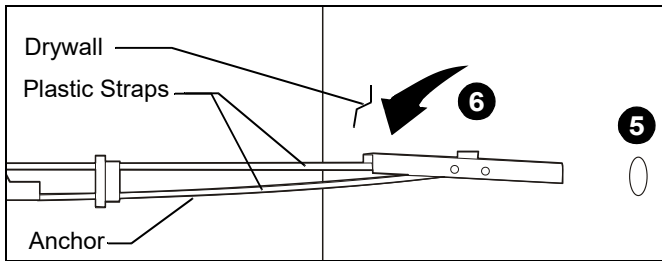
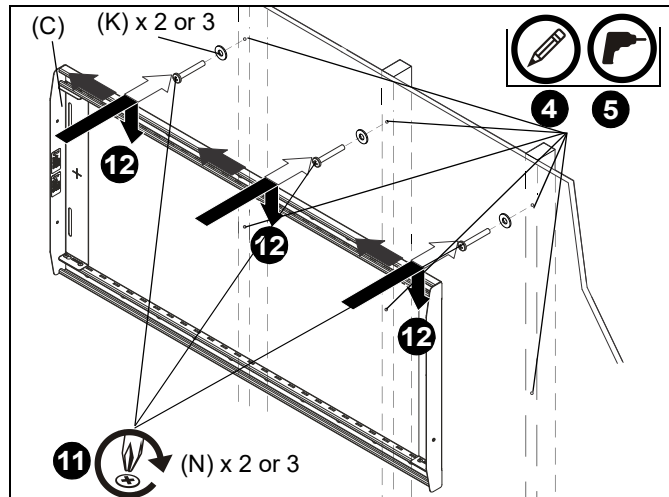
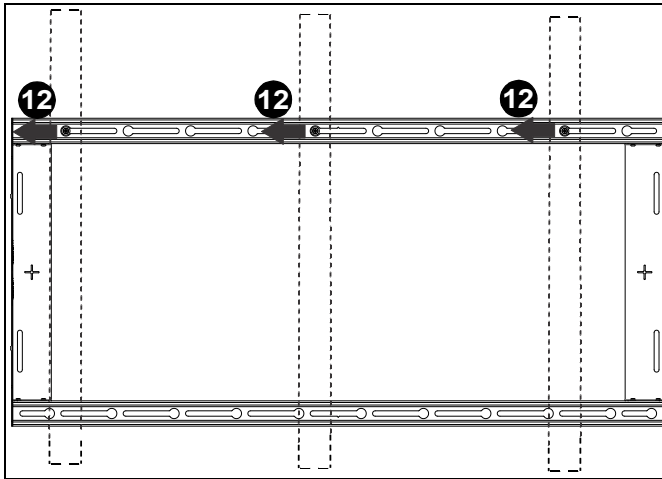

Figure 3
Figure 6
Figure 7
4. Using a level, mark the wall on each stud to attach the mount through the mounting slots. (See Figure 6)
5. Drill four or six 1/2" (12.7mm) pilot holes (one in each stud) at the site of the upper and lower mounting holes. (See Figure 3) and (See Figure 6)
6. Hold metal channel on anchor (L) flat alongside plastic straps and slide channel through hole. (See Figure 3)
11. Partially install two or three 1/4-20 x 2" Phillips pan machine screws (J) and two or three 1/4" washers (K) into anchors (L) but do not tighten to wall. (See Figure 6)
- Hang rail assembly (C) and slide it slightly to the left until screws (J) are clear of keyhole slots and able to hold mount to wall. (See Figure 6) and (See Figure 7)